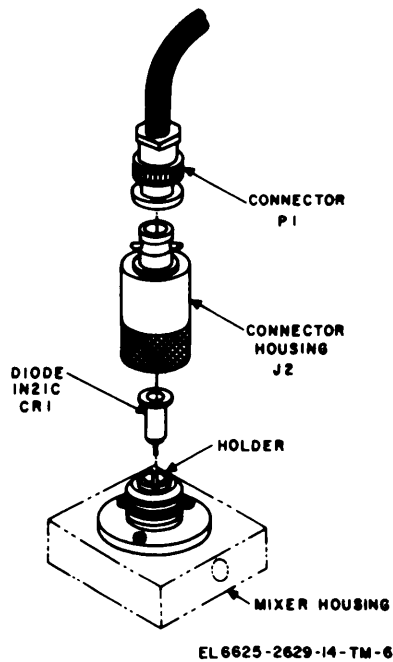

Figure 7-7. Replacement of diode CR1.
- a. Disconnect the cable at the mixer housing connector P1 (fig. 7-7).